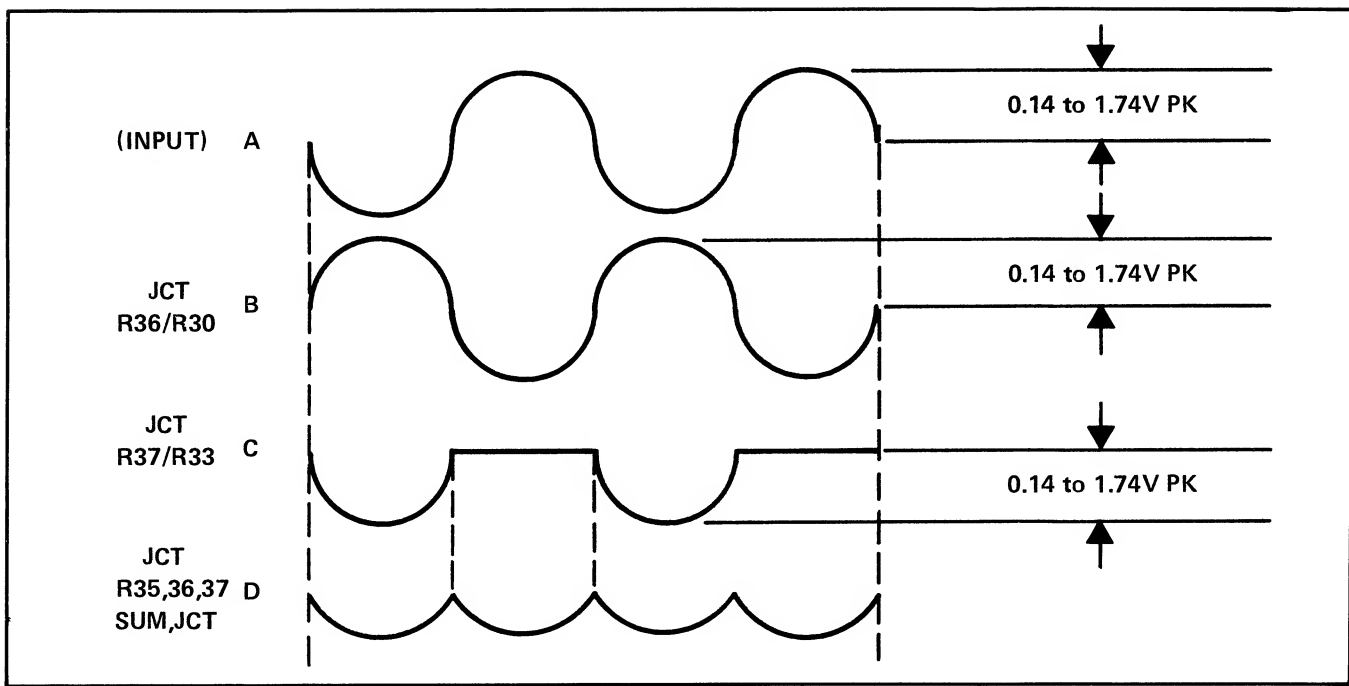

Figure 3-4. AC SENSE SIGNAL PROCESSING
3-74. The output of the buffer amplifier is a sine wave, equal in amplitude, but 180 degrees out of phase to the input signal (see Figure 3-4, A and B). The buffer amplifier output is fed to the summing junction through resistor R36, and to the rectifier amplifier. The output of the rectifier amplifier is also a sine-wave of equal amplitude, shifted another 180 degrees. Only the negative half-cycles of this output (C) are fed to the summing junction, through diode CR10 and resistor R37. The net result of these two signals being mixed in the summing junction is a full-wave-rectified, pulsating dc voltage (D). When the AC Sense signal and the variable Reference signal are in the proper balance, that is, when all of the current supplied to the summing junction by the positive Variable Reference voltage is drawn by the outputs of the two amplifier, the summing junction potential will be at virtual circuit-common potential, (the pulsating dc voltage will be centered around zero volts) and no error voltage will be developed at the converter output (pin 55 of P50). When more current is drawn, or when less